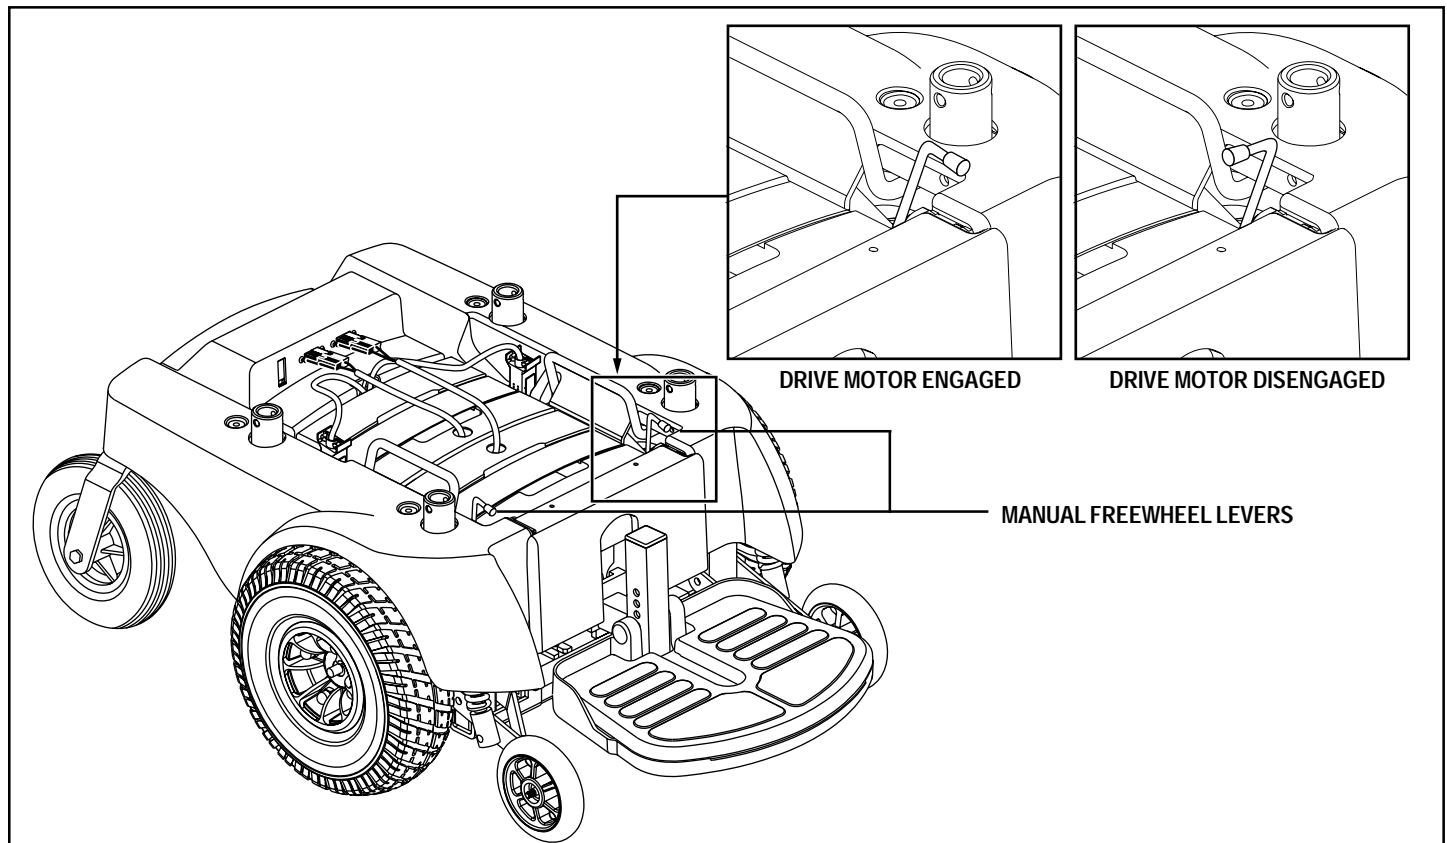

Figure 8. Manual Freewheel Levers
1. Locate the levers on the front of the power base. See figure 8.
2. Push the manual freewheel levers so they are facing the front of the power chair to engage the drive motors (drive mode). See figure 8.
3. Push the manual freewheel levers so they are facing the center of the power chair to disengage the drive motors (freewheel mode). See figure 8.
Your power chair disassembles into eight easily transportable component assemblies (seat and leg rests not shown)—with no tools required. See figure 8.